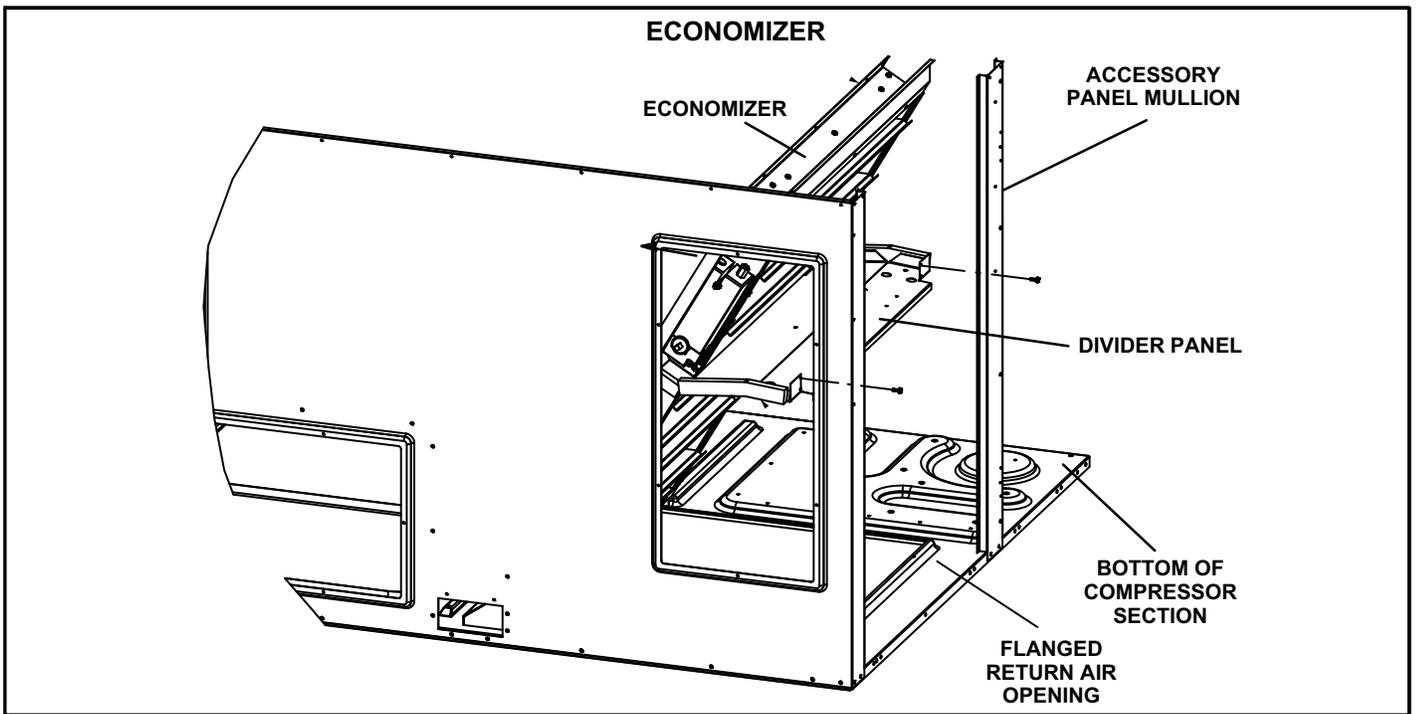

**FIGURE 34**
LAOD(M) consists of a set of dampers which may be manually or motor (M) operated to allow up to 25 percent outside air into the system at all times (see figure 34 or 35). Either air damper can be installed in LGM units. Washable filter supplied with the outdoor air dampers can be cleaned with water and a mild detergent. It should be sprayed with Filter Handicoater when dry prior to re-installation.